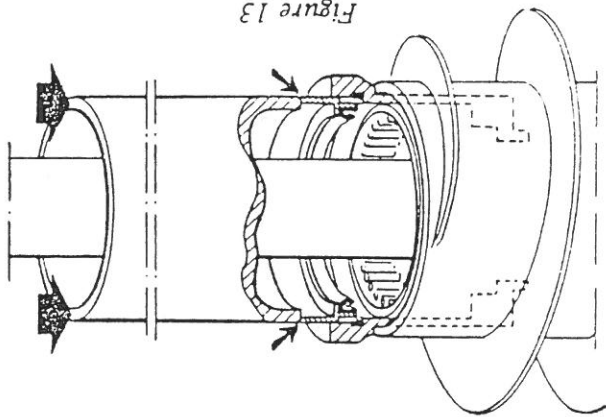

Figure 13
5. Fit a new lip seal ring (8) in the seal lining (9). Be sure that the sealing lip faces the right way (open side of ring toward the needle bearing).
6. Fit the seal lining (9), pressing it evenly and straight into its seat in order not to damage the O-ring. Using a piece of pipe with the same outer diameter as that of the seal lining and with bevelled end plane might help. See fig. 13.
7. Fit the tapered lock ring (10). Fit and tighten the screws (11).